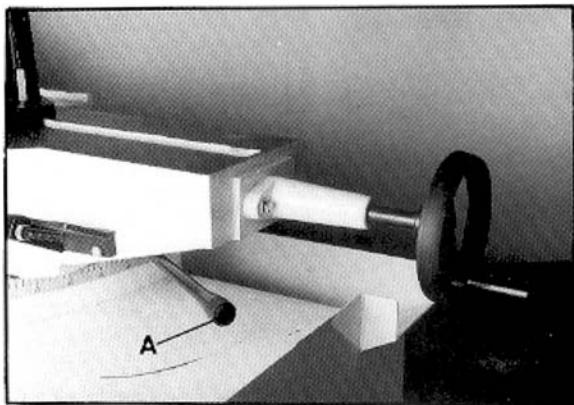

Figure 13
2. Pull the handle (A, Figure 13) toward the front of the saw.